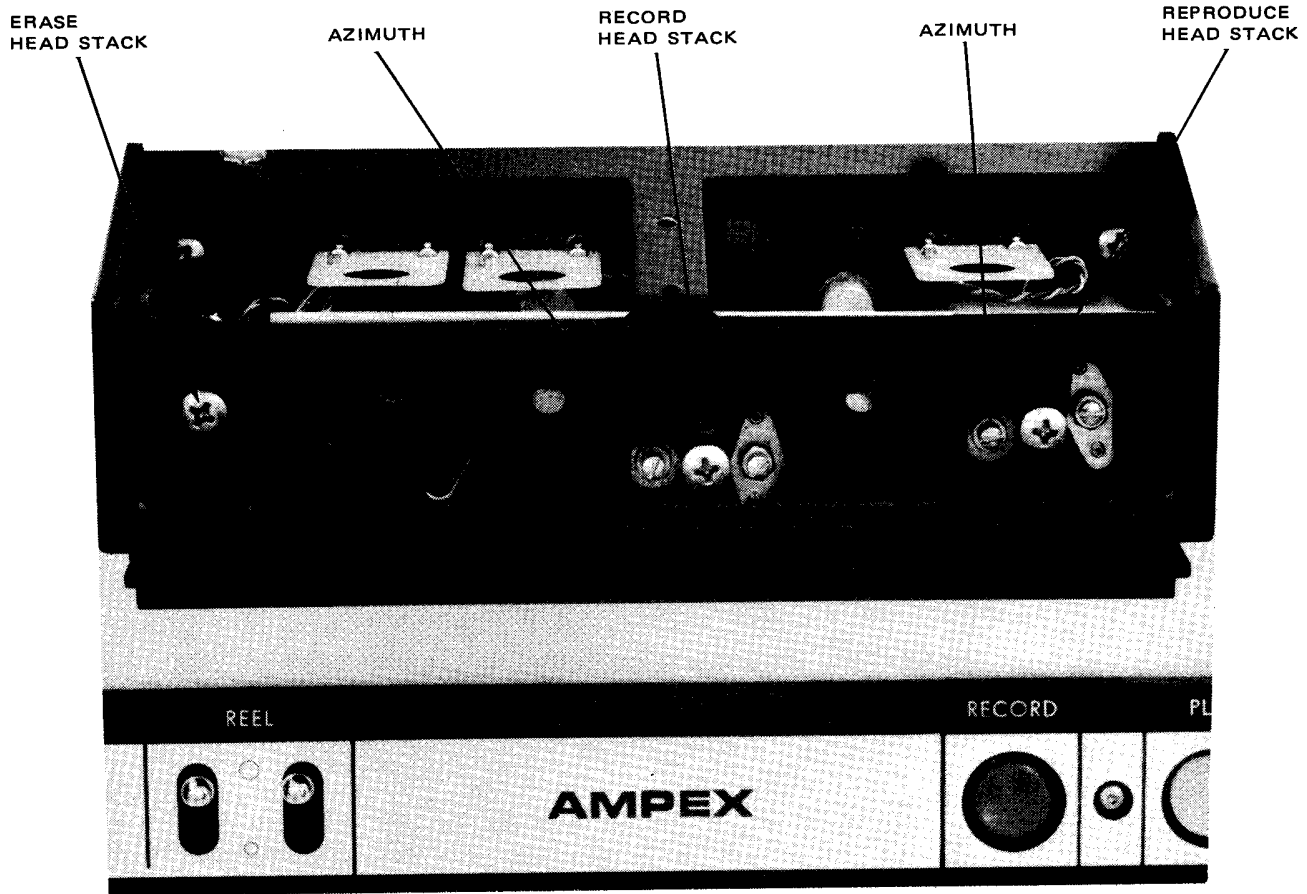

Figure 5-9. Head Azimuth Adjustments
**Reproduce Head Azimuth.** It is recommended that the reproduce head azimuth be adjusted at 7-1/2 in/s for 3-3/4 – 7-1/2 or 7-1/2 – 15 machines and at 15 in/s for 15 – 30 machines. This adjustment may be made using the equipment vu meters. It is made by adjusting the left hand nut at the top of the reproduce head (see Figure 5-9).
7. Since the azimuth must be in approximate alignment to provide a signal at the 1-1/2 mil wavelength, it may be necessary to make a preliminary azimuth adjustment at this time. Place a nut-driver on the left hand nut of the record head (Figure 5-9) and adjust for a maximum reading on the vu meter.
7. Adjust the record head azimuth nut (not the screw) shown in Figure 5-9 for a maximum reading on the vu meters. On multichannel equipment, if all heads do not peak at the same setting, adjust for optimum output of all the heads.